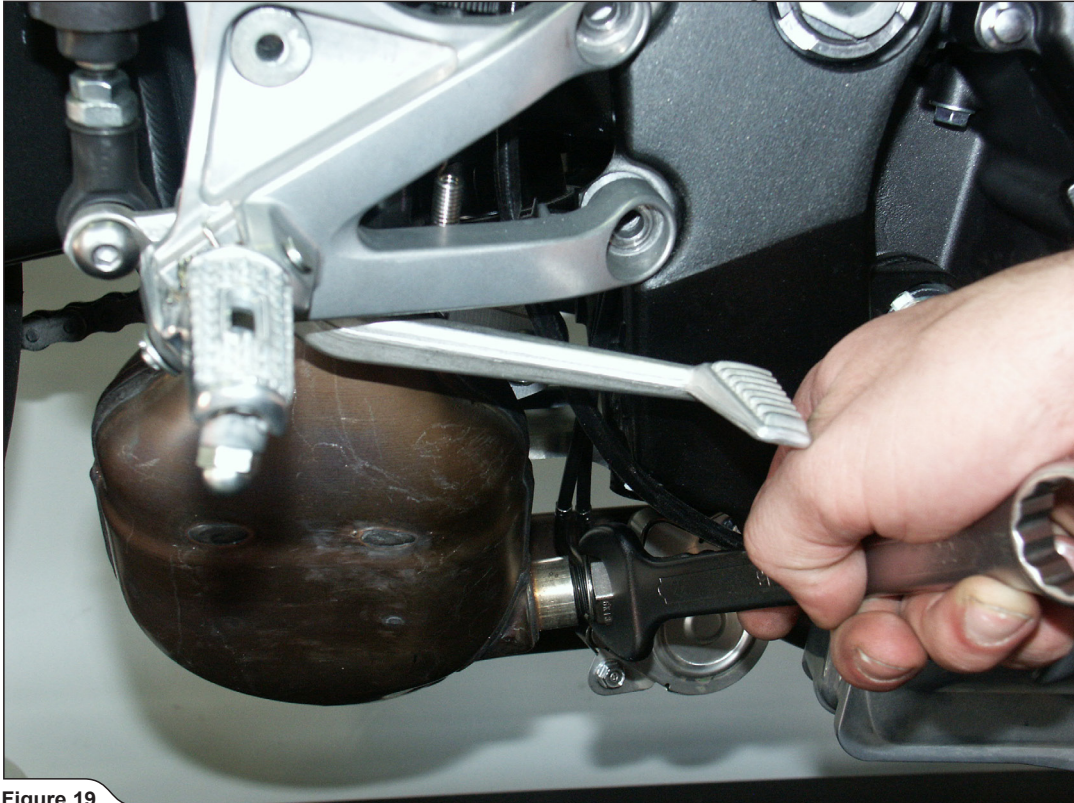
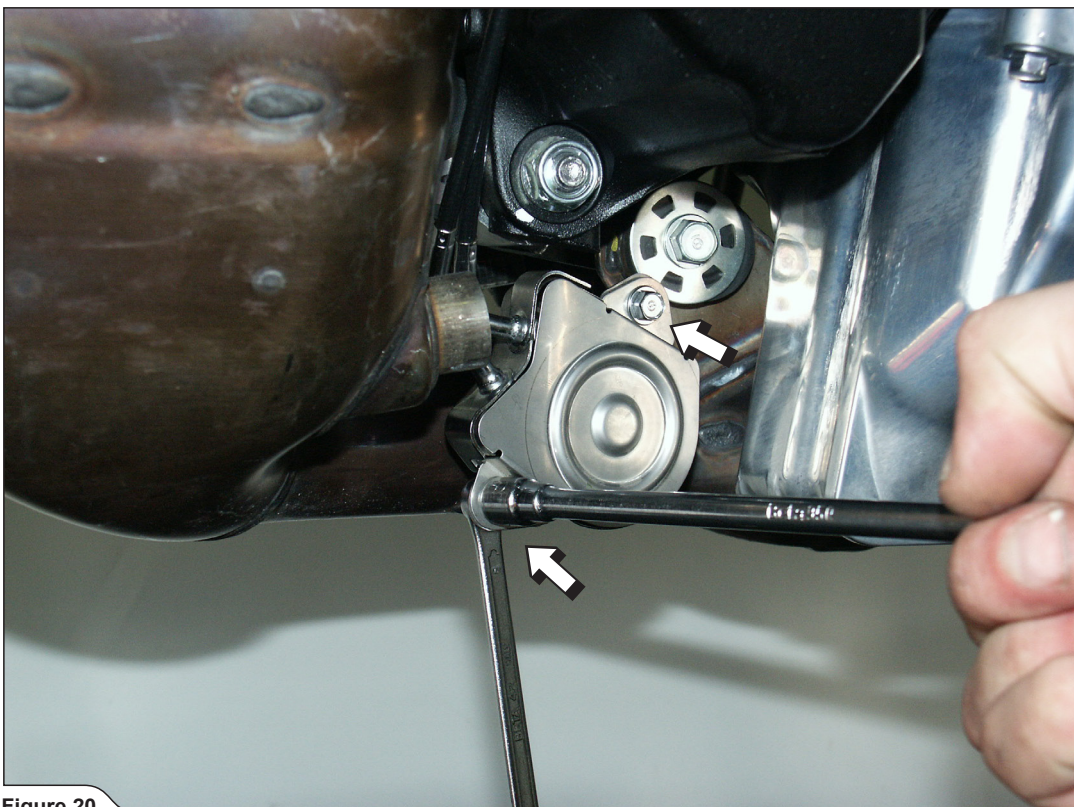

Figure 19
Figure 20
8. Unscrew and remove the lambda sensor (**Figure 19**). Remove the cover of the exhaust valve and servo motor (exup); disconnect and remove the cables on both sides (servo motor an exhaust valve). Reattach the plastic servo motor's cover on it's original position (**Figure 20, 21, 22, 23**).